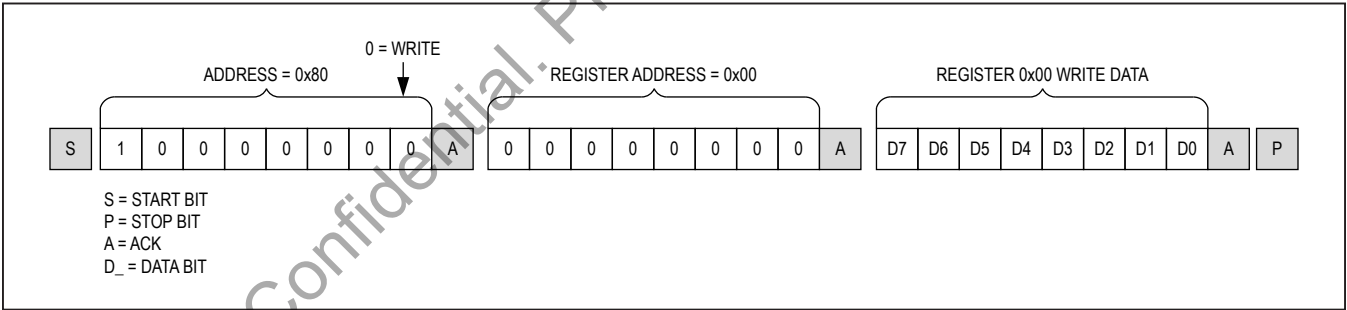
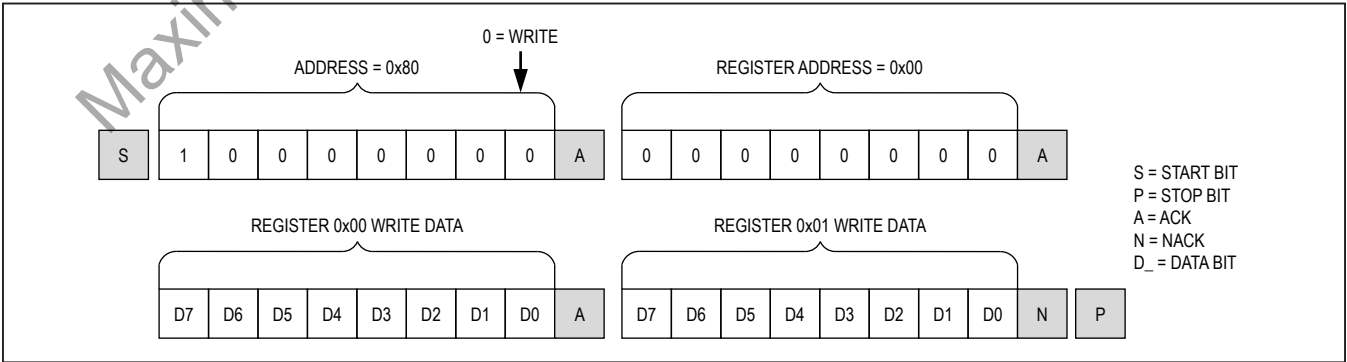

Figure 42. Format for I2C write
Figure 43. Format for I2C Write to Multiple Registers
Writes to the deserializers comprise the transmission of the slave address with the R/W bit set to zero, followed by at least one byte of information. The first byte of information is the register address or command byte. The register address determines which register of the device is to be written by the next byte, if received. If a STOP (P) condition is detected after the register address is received, the device takes no further action beyond storing the register address (Figure 42). Any bytes received after the register address are data bytes. The first data byte goes into the register selected by the register address, and subsequent data bytes go into subsequent registers (Figure 43). If multiple data bytes are transmitted before a STOP condition, these bytes are stored in subsequent registers because the register addresses autoincrements.